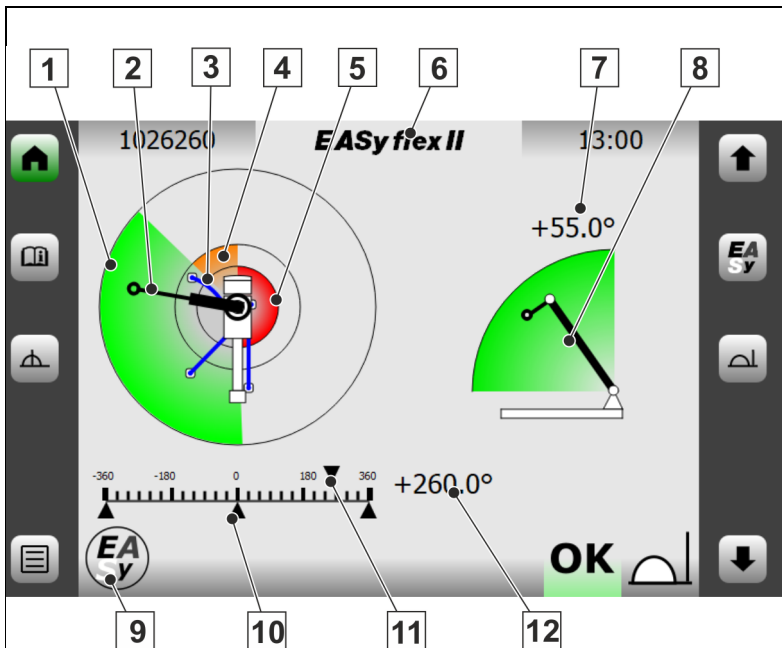

Fig. 65 Example: EASyflex II
Depending on the machine's equipment, the corresponding screen title is displayed in the top status bar (6) (Fig. 65) on this screen: